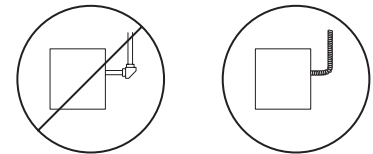

FIG. 1
1. Mount the equipment securely in place (Fig. 1). The (4) mounting screws and (4) anchors provided are for mounting to surfaces suitable for use with such hardware such as STUCCO, CONCRETE, or similar surfaces. If mounting to surfaces where machine type screws and anchors (such as toggle bolts) or other types of anchoring hardware will be necessary, this hardware must be provided in the field by the installer. Consult factory for assistance, if needed.